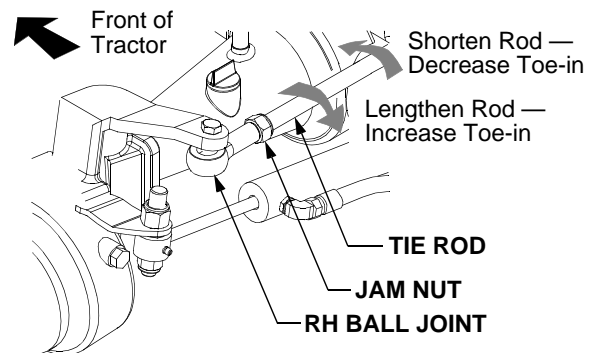

Figure 28
- Loosen the jam nuts at both the LH and RH ball joints. See Figure 28.
Forward to shorten the tie rod and decrease the toe-in. See Figure 28.
Rearward to lengthen the tie rod and increase the toe-in. See Figure 28.